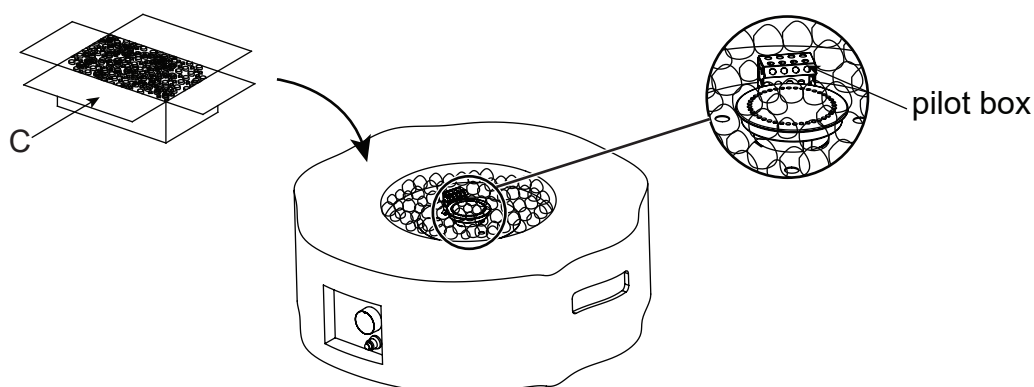

Figure 2
2. Open the box of lava rocks, put the lava rocks (C) into the fire bowl of the fire table (A) (See Figure 2). A gas fire pit requires 4.18 lbs lava rocks.